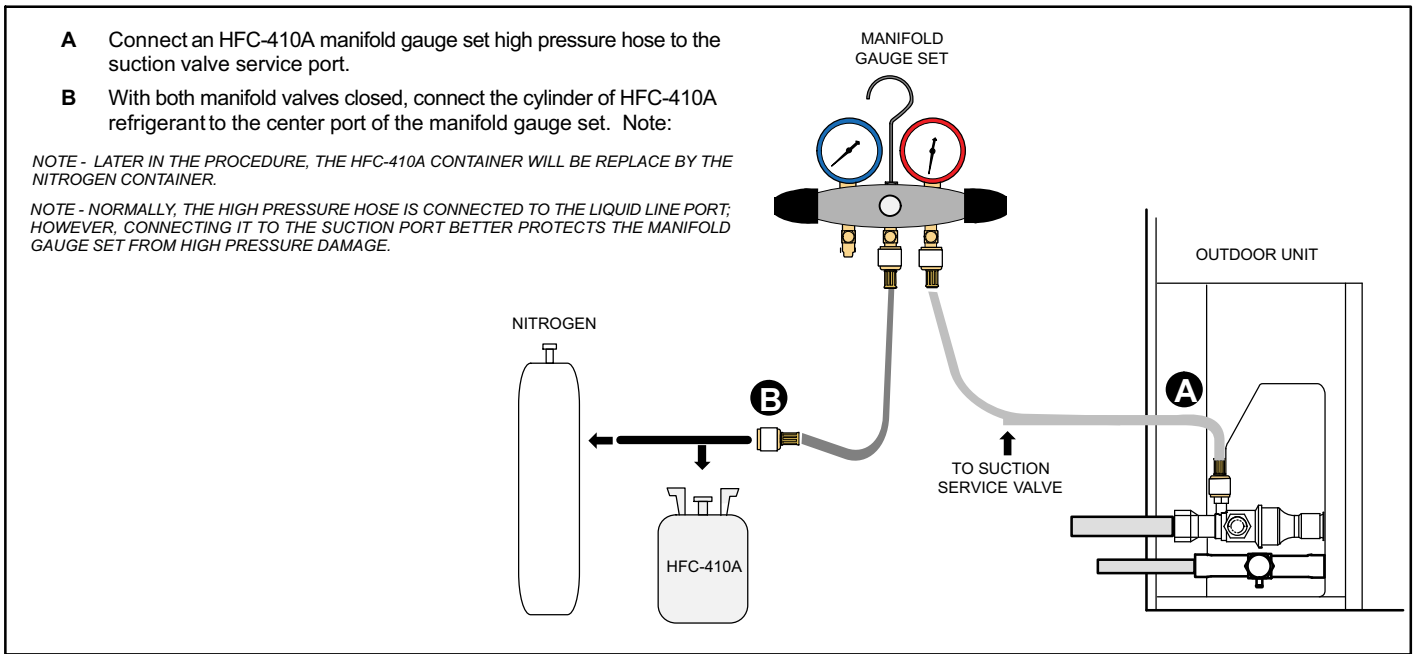

Figure 28. Typical Leak Testing Manifold Gauge Set Connections
- Connect an HFC-410A manifold gauge set as illustrated in figure 28.